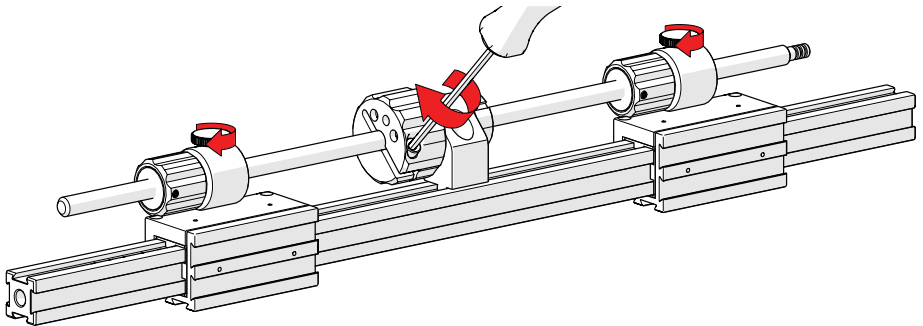

Fig. 134 - Tighten hexagonal screw
5. Tighten the main knob's hexagonal screw (*Fig. 134*).